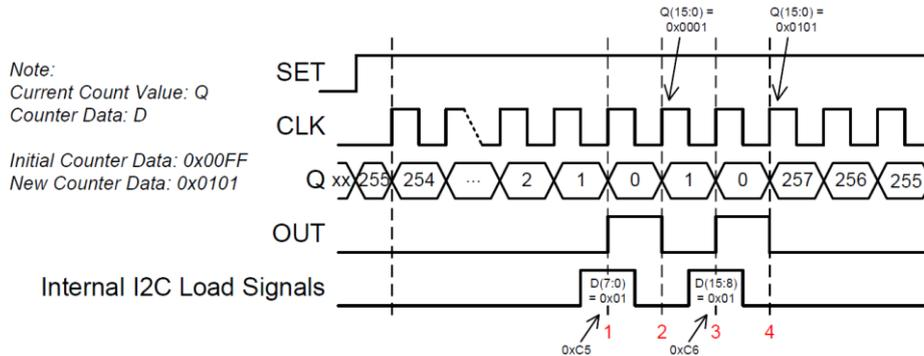

Figure 10: I2C Write of 16-Bit Counter Data Example
The timing diagram in Figure 10 sets up a case where an improper output will be seen on the counter. In this example, the initial Counter Data value (D) is set up as 0x00FF. As you can see, the Current Count Value (Q) decrements from 255 down to 0 with rising edges on CLK. At time “1” denoted by a red number 1, an I2C command (not shown) has just been sent to the GreenPAK device to reconfigure the Counter Data value to 0x0101.
For the following condition, the Counter Data register contents are unexpectedly loaded into the counter’s DFF chain. This behavior occurs when there is a falling edge on the counter block’s clock input during the data return portion of an I2C read of the Counter Data registers. Figure 10 shows this falling edge boxed in light blue followed by two I2C reads of the Current Count Value registers.